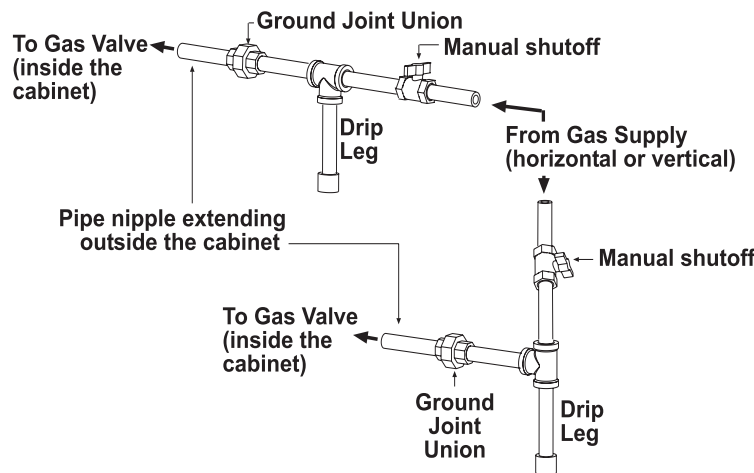

Figure 6. Gas Connections
- Install a ground joint union and manual shutoff valve upstream of the unit control system, as shown in Figure 6.
- The 1/8-inch plugged tapping in the manual shutoff valve in Figure 6 provides connection for a supply line pressure test gauge.
- The *National Fuel Gas Code* requires the installation of a trap with a minimum 3-inch drip leg (see Figure 6). Local codes may require a drip leg longer than 3 inches (typically 6 inches). To permit burner removal, this drip leg must extend beyond the edge of the heater.
- The gas connection is made at the pipe nipple that extends outside the cabinet, as shown in Figure 6. Gas connection sizes are listed in Table 7.